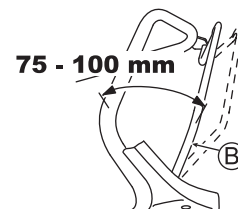

Fig. 26
Adjust so that the machine runs (the drive clutch gets engaged) when the distance between Drive clutch lever (B) and the handle is 75 - 100 mm as shown in Fig. 26.